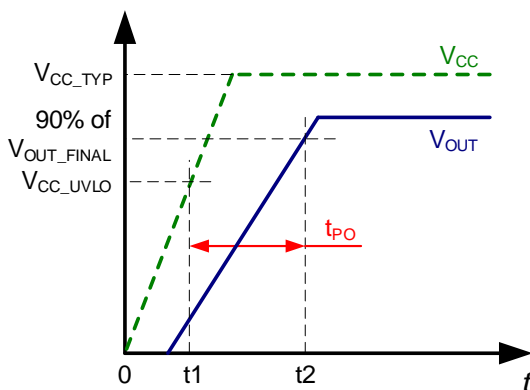

Figure 5: Power-On Time ( $t_{PO}$ )
2.  $t_2$ :  $V_{OUT}$  reaches 90% of its final value ( $V_{OUT\_FINAL}$ ) under an applied  $I_P$  (see Figure 5).